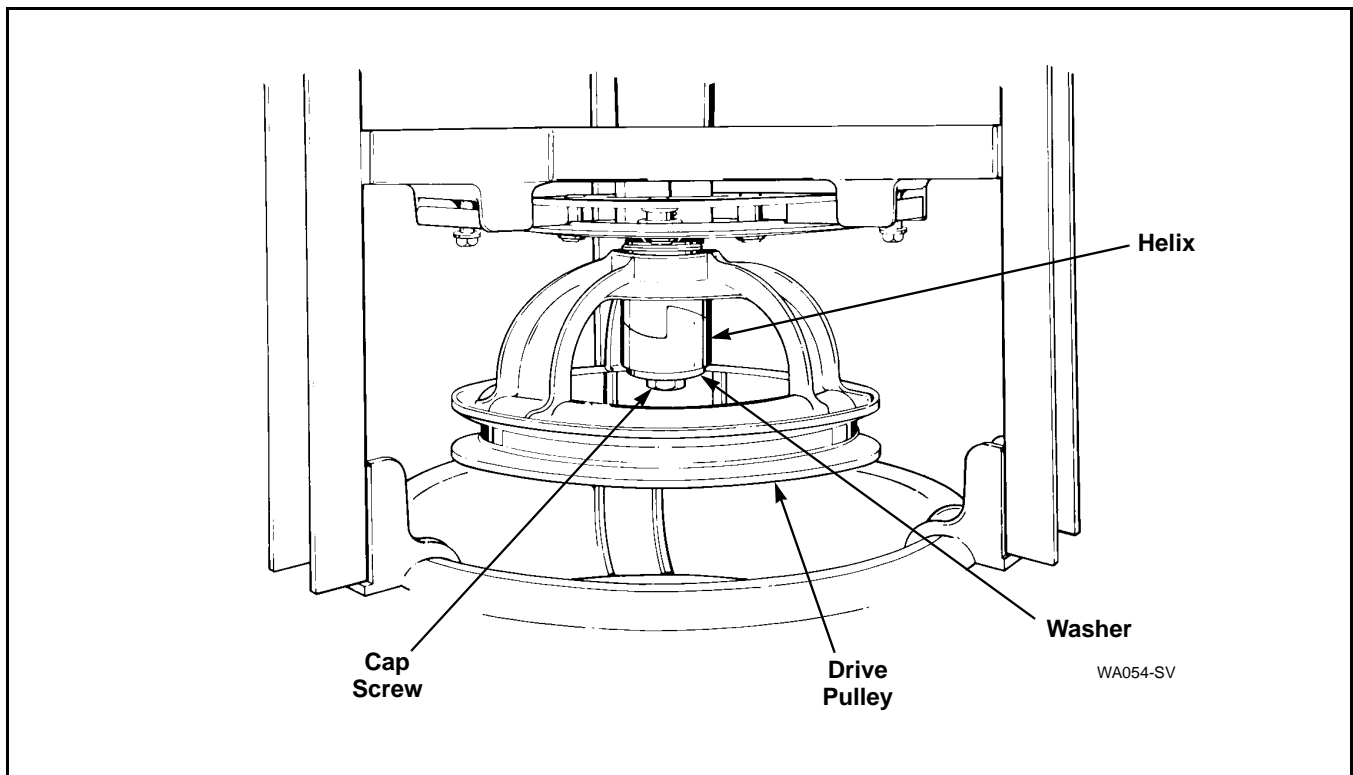

Figure 45
- Remove screw, washer and helix holding drive pulley to the input shaft of the transmission assembly. Refer to *Figure 45*.
- n. Remove screw, washer and helix holding drive pulley to transmission shaft. Refer to *Figure 45*.
- o. Remove drive pulley from transmission shaft. Refer to *Figure 45*.
- p. Remove needle bearing (if present), bearing races (if present) and large flat washer from transmission shaft. Refer to *Figure 45*.